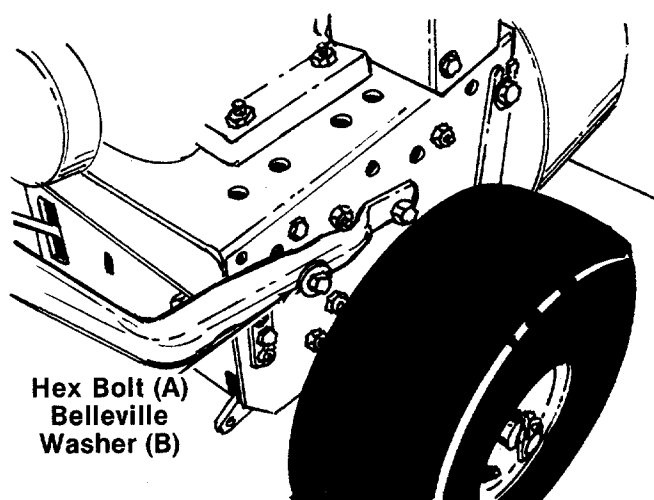

FIGURE 4.
5. Secure the upper hole in the handles with belleville washers (B) (cupped side against the handles) and hex bolts (A). See figure 4. Do not tighten at this time.